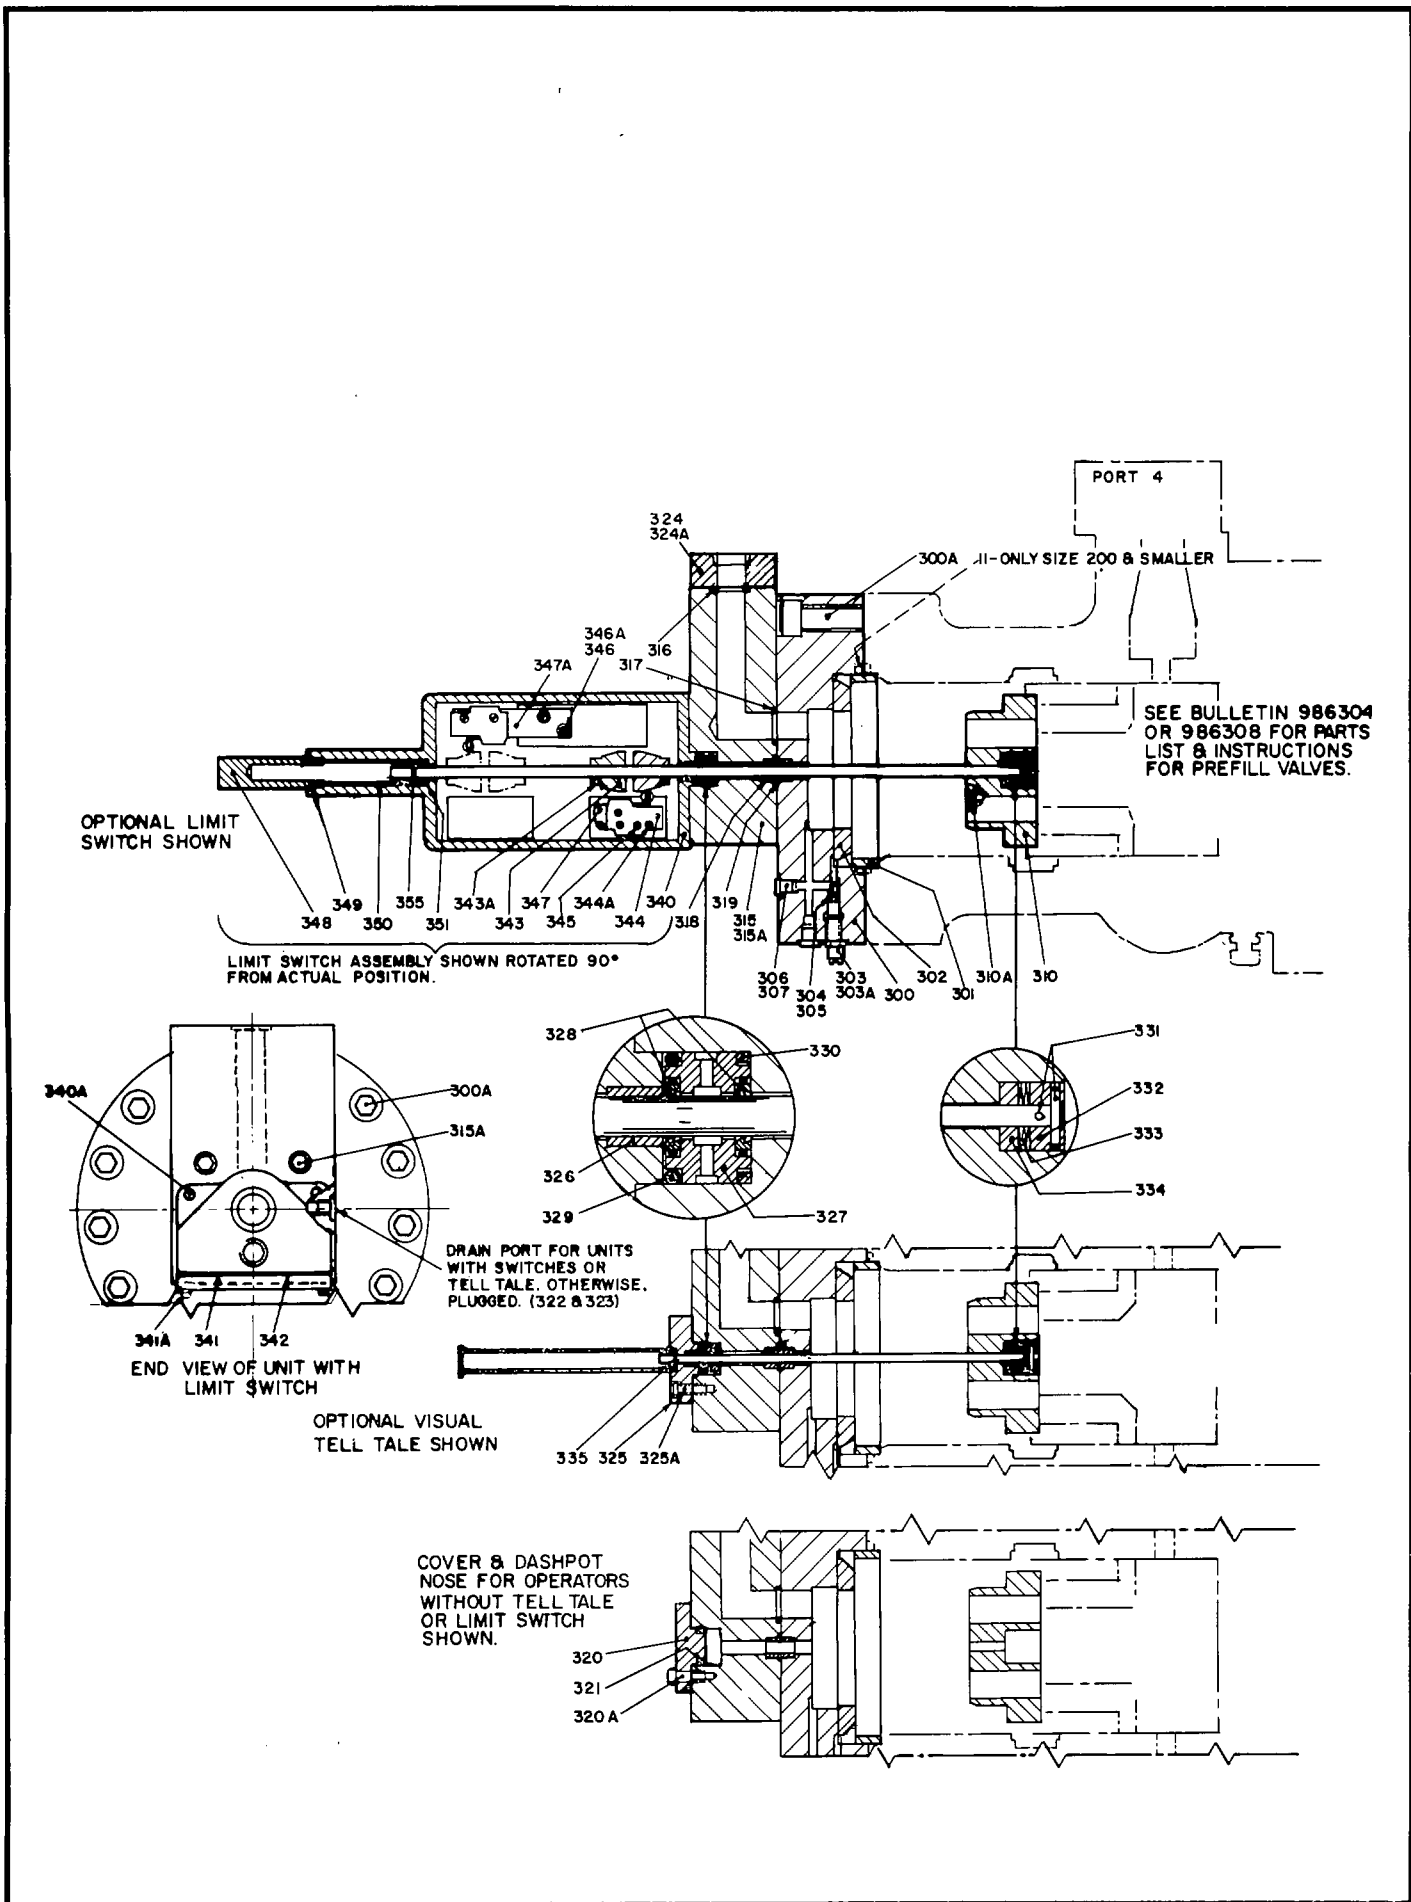

Figure 2. Parts Drawing, Modular Plain Type Operator. DS 986321 (516665).
Refer to Figure 2. The principle parts of this operator are a dashpot nose (310) on the control piston, a floating dashpot mechanism (302) in the rear head (300), and an adapter block (315). Optional limit switch assembly (340) or visual tell tale assembly (325) may also be mounted on the module adapter block (315).
Refer to Figure 2. It will be advantageous to tag similar parts (particularly screws, plugs and o-rings) during disassembly to be certain they don't become confused with similar parts and to ensure they will be returned to original location.
**Avoid allowing cylinder prefill plunger (18) movement beyond normal closed position or piston rings will expand in Port 3 relief and lock plunger in body. Refer to Figure 2. Depending upon what part or parts are to be inspected, it may not be necessary to completely take apart all assemblies or disconnect piping.**